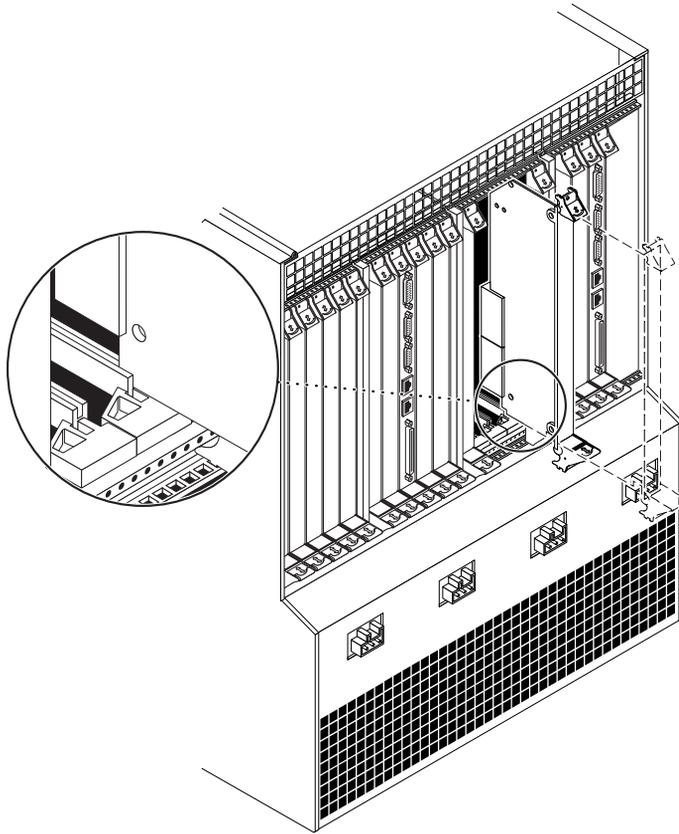

FIGURE 2-19 Aligning the Rear Transition Module with the Rear Cage Cutouts
- 8. Keeping the new rear transition module vertical, slide the module into the slot in between the two guides (FIGURE 2-19).**